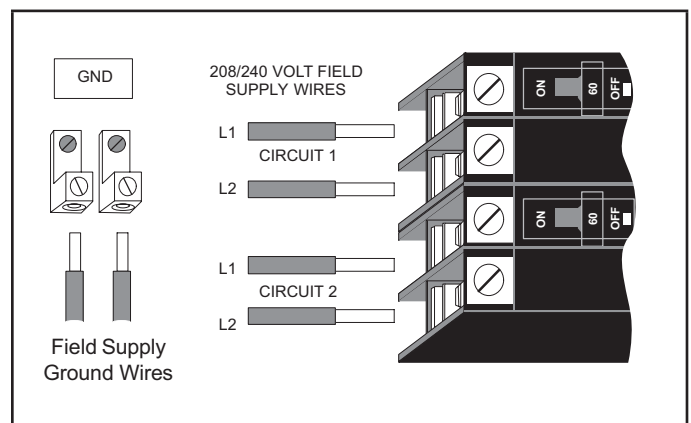
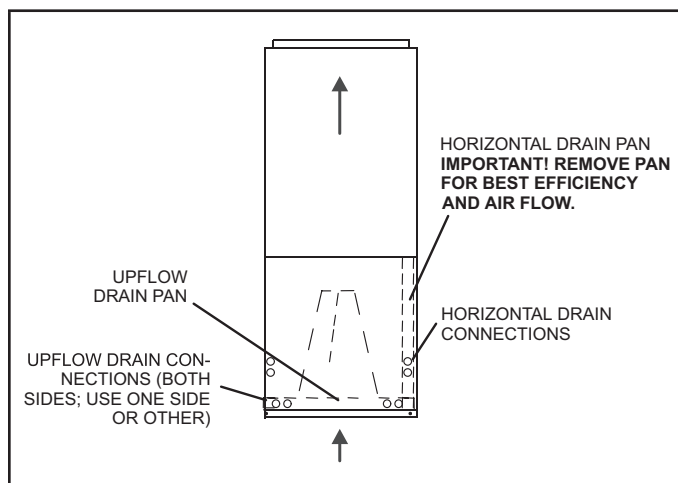

FIGURE 8. Field Power Supply Wiring
FIGURE 11. Upflow Configuration
Refer to figure 11 for typical low voltage field wiring for air handler/condensing unit and heat pump applications. Figure 8 is a diagram of the air handler connections and the heater high-voltage wiring.
Heaters equipped with circuit breakers – Connect field power supply wiring to circuit breaker(s). Figure 8 shows **L1**, **L2** and ground (**GND**) connections for a 2-breaker configuration.
- 3 - For applications using a two-stage room thermostat and/or an outdoor thermostat, connect wiring as shown in figure 8.